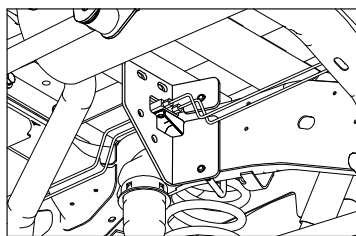

Figure E4: View of driver side plate looking from floor up at the driver side frame.
3. **Install the driver side plates.** The two side plates that are left will be combined to secure the hitch to the frame on the driver side. Using the slot provided, maneuver the first side plate around the brake lines and line the holes up with the U-bolt, see Figure E4. The wiring harness loosened when installing the cross members may lay in this slot to prevent it from being pinched by the U-bolt, side plate, or cross member.